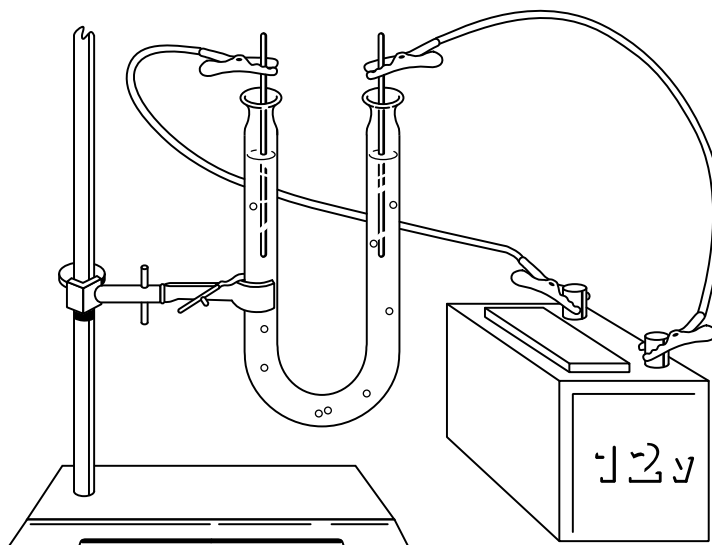

Figure 11.2
5. Action of electricity on water (electrolysis). Water can be broken down into its component elements by passing electricity through it. This process is called *electrolysis*. Your teacher will explain the apparatus shown in Figure 11.2. Make observations of the reaction during a 10-minute period.